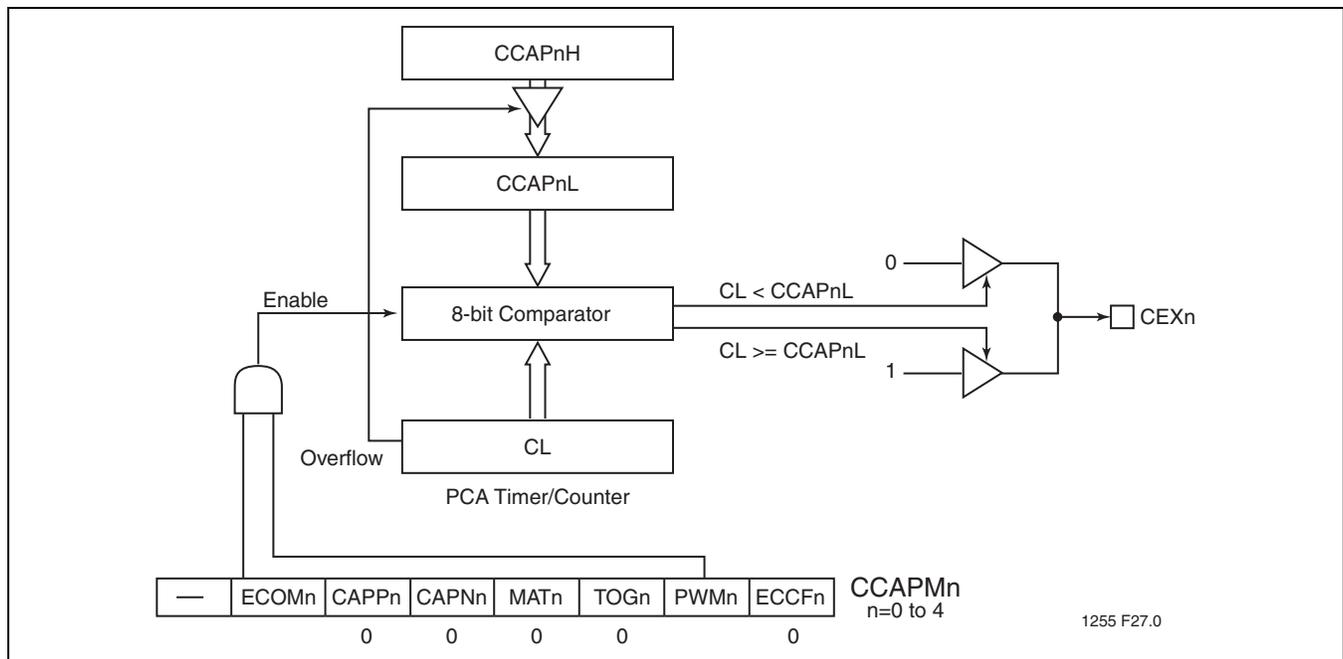

FIGURE 8-5: PCA Pulse Width Modulator Mode
The Pulse Width Modulator (PWM) mode is used to generate 8-bit PWMs by comparing the low byte of the PCA timer (CL) with the low byte of the compare register (CCAPnL). When $CL < CCAPnL$ the output is low. When $CL \geq CCAPnL$ the output is high. To activate this mode, the user must set the PWM and ECOM bits in the module's CCAPMn SFR. (See Figure 8-5 and Table 8-7)